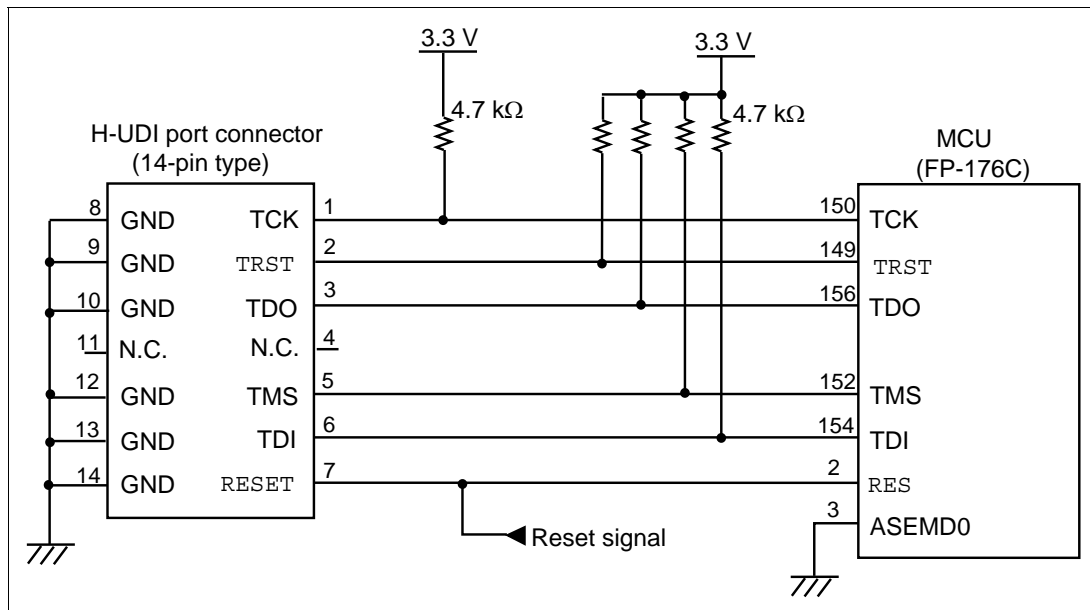

Figure 4.1 Recommended Circuit for Connection between the H-UDI Port Connector and the MCU
Figure 4.1 shows a recommended circuit between the H-UDI port connector and the MCU.
- (1) When the emulator is used: /ASEMD0 = low (ASE mode)
- (2) When the emulator is not used: /ASEMD0 = high (user mode)
6. The resistance values shown in figure 4.1 are recommended.